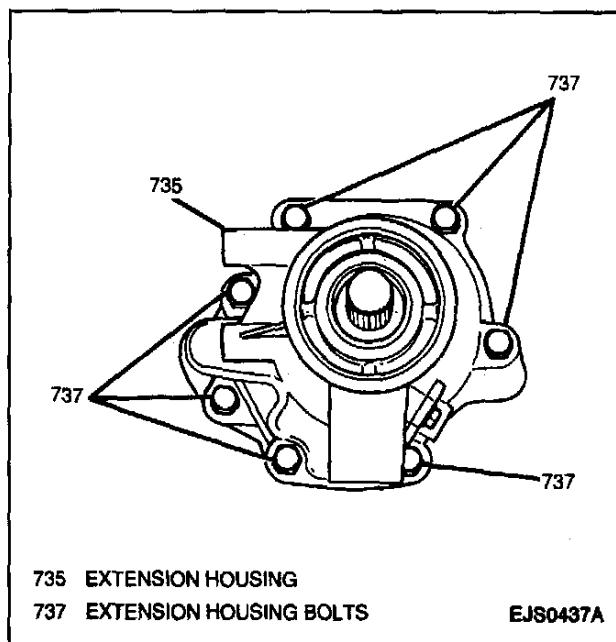

Figure 52—Extension Housing Bolts (3L30, 3-Speed)
14. Seven bolts, extension housing and gasket from transmission case (Figure 52).
4. New extension housing gasket and extension housing to transmission case; secure with seven bolts (Figure 52).